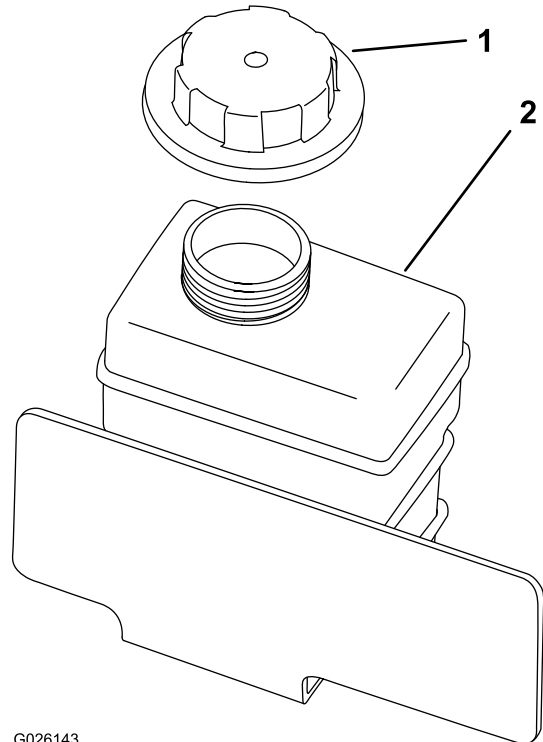

Figure 51
4. Check the coolant level inside the reserve tank (Figure 51).